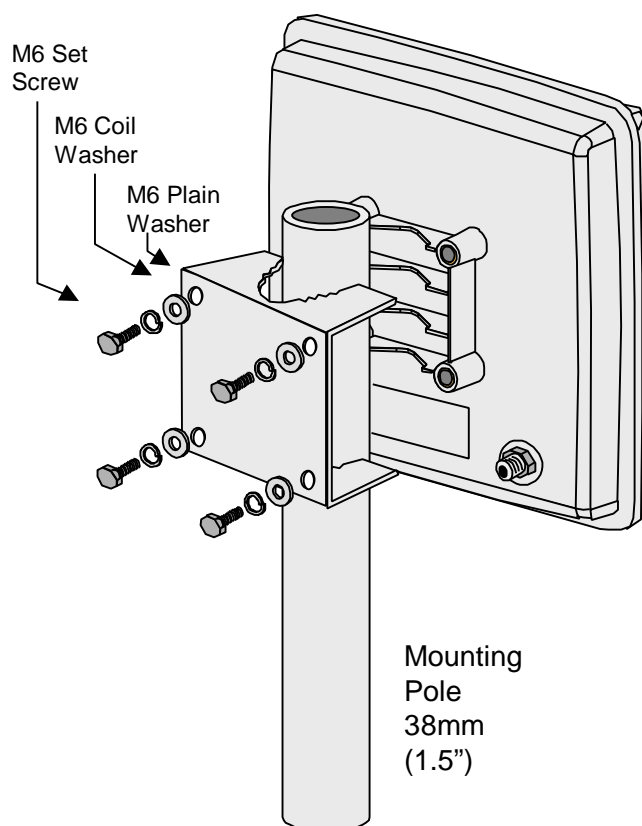

Figure 21. Antenna Pole-mount Positioning and Securing
5. Secure the Antenna Radium to the mounting pole using the pole bracket secured by four M6*20mm Hex Head Set Screws, 6mm Flat, and 6mm Coiled washers as shown in Figure 21. Tighten the Set Screws to a torque of 4Nm